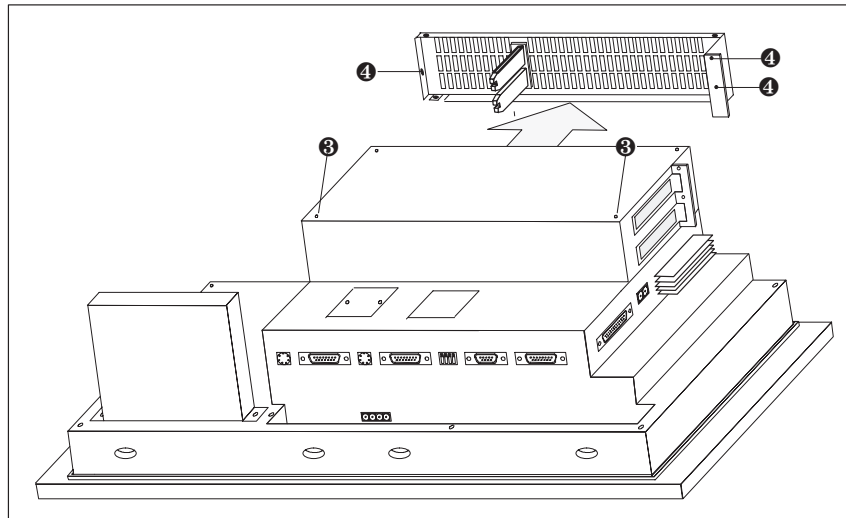

Figure 18-2 Remove the side panel
- Secure the AT expansion slot to the OP (Figure 18-2) using two of the four screws enclosed ④.
- Undo the three screws ④ (see Figure 18-2) and remove the side panel.